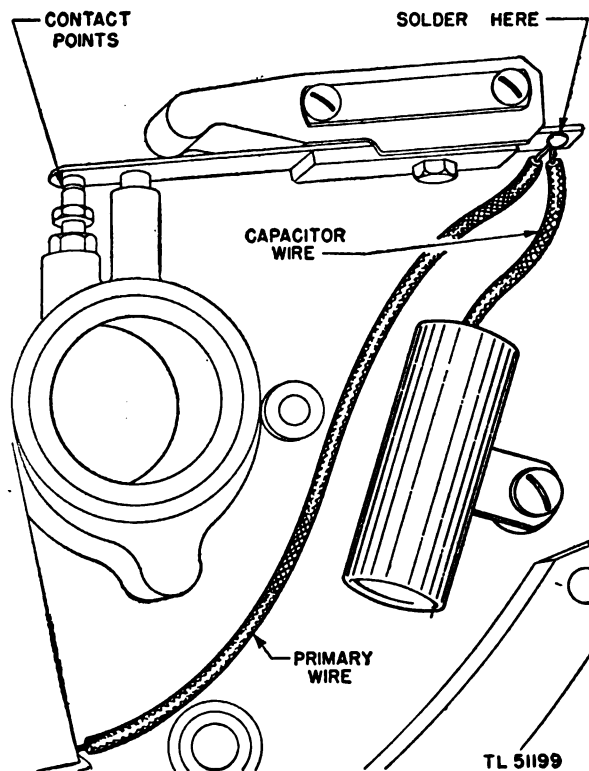

Figure 63. Capacitor installation.
(5) *Replacing capacitor.* A leaky capacitor may cause the engine to sputter, to be hard to start, or to misfire under load. If the engine misfires after the gasoline line, carburetor, spark plug, cable, and contact points have been checked, install a new capacitor. (See fig. 40 (372).) Slip the short insulator sleeve over the capacitor wire. Solder the end of the capacitor wire and the primary wire to the contact spring. (See fig. 63.) If, after installing a new capacitor, the ignition system still fails to deliver a